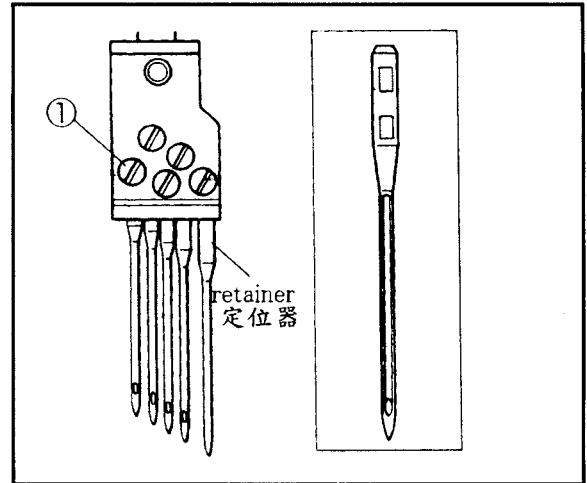

Fig. 30
The shank of the needle includes the flat parts. Insert needles into the inmost point of the needle clamp, and tighten them with the screws①. (Fig. 30)
將針插到針鑷的最頂端然後鎖緊用螺絲①。(Fig. 30)